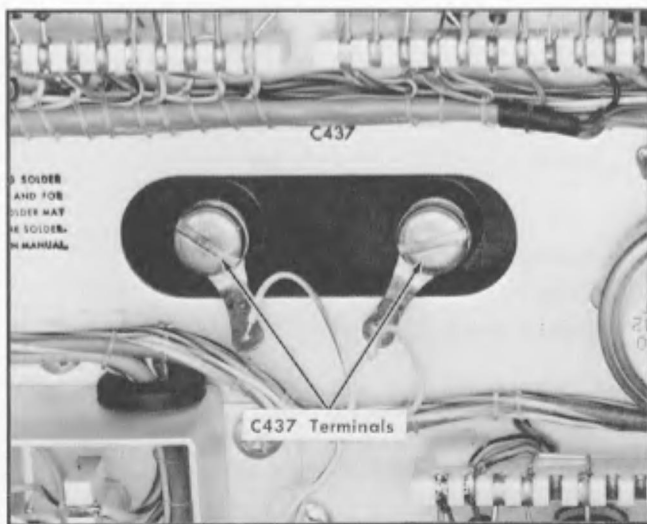

Fig. 6-9. Location of C437 terminals.
- b. Short circuit the terminals of C437 (20,000 μ F) together with a jumper wire. See Fig. 6-9 for location of C437 terminals.